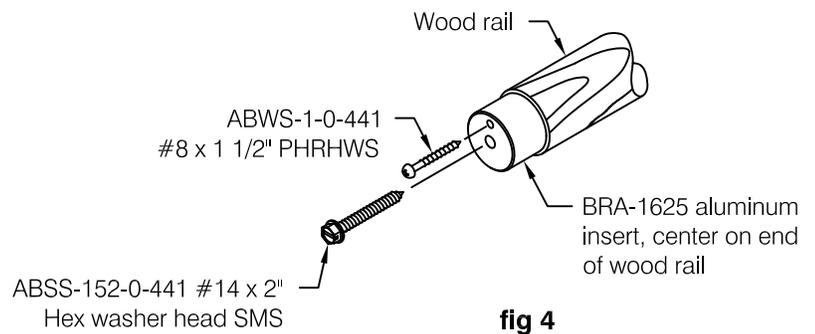

fig 4
- Step 5:** Apply a thin coat of ADH-50 adhesive (provided) to one face of the BRA-1625 aluminum insert. Place the insert with the adhesive face against the dowel and secure in place using the #14 x 2" hex washer head screw provided. Keep aluminum insert centered on rail while tightening. With the insert in place, drill into wood approximately 3/4" using a #27 bit and the small hole provided in the insert as a guide. To prevent the insert from rotating, install #8 x 1 1/2" Philips round head wood screw (provided), see **fig 4**.